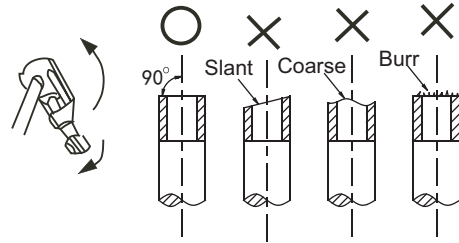

Fig.6-4
1) Use a pipe cutter to cut off the pipe (See Fig.6-4)